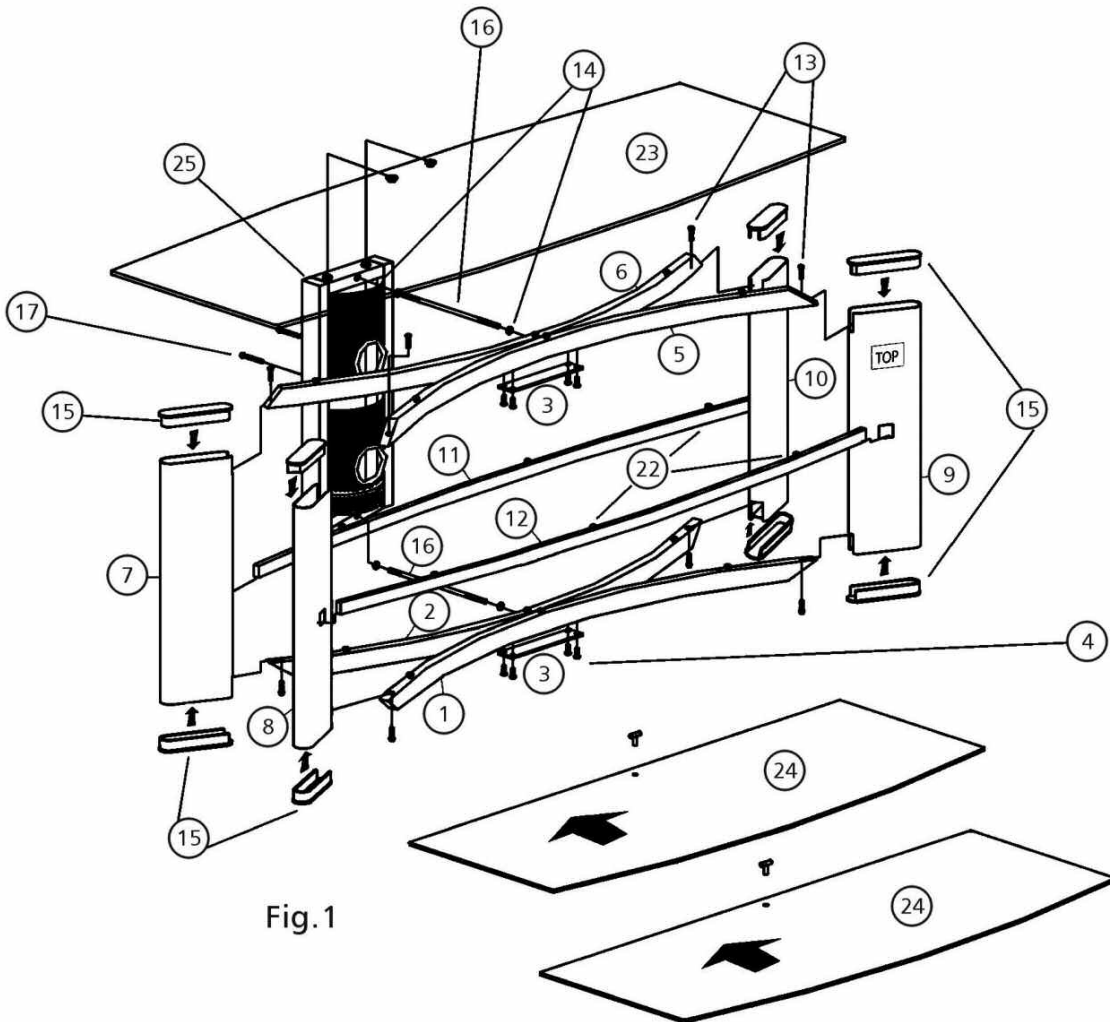

Fig. 1
A. PLACE the LOWER frame bars (1) and (2) UPSIDE DOWN on the floor so that the two holes in the bottom of the bars are facing upwards and the holes in the center of the sides of the bars are ALIGNED. NOTE THE DIRECTION OF THE SLANT AT THE BAR ENDS AS SHOWN IN FIG. 1 AND FIG. 2.
B. ALIGN one of the two flat plates (3) with the upward facing holes in the two bottom frame bars, so that the recessed screw holes in the plate is also facing upwards, and SECURE the plate and the lower frame bars together with the 1/4" x 15 mm funnel neck screws (4).
C. REPEAT this assembly procedure for the UPPER frame bars (5) and (6). NOTE THE DIRECTION OF THE SLANT AT THE BAR ENDS AS SHOWN IN FIG. 1 AND FIG. 2.
D. TURN the BOTTOM frame bars (1) and (2) over so that the flat plate (3) is sitting on the floor.
NOTE: All four legs are the same. TO AVOID SCRATCHING the legs or the BOTTOM frame bars, CAREFULLY PLACE the four legs (7), (8), (9), and (10) upright with the slots in the bottom of each of the legs over the BOTTOM frame bar as shown in Fig. 1. The cut-out hole located on the middle side of each leg MUST be facing OUTWARD away from the center of the table when fully assembled. DO NOT SECURE THE LEGS TO THE BOTTOM FRAME BARS AT THIS POINT. This step is used to hold the furniture in place while securing the TOP frame bars.
E. TURN the attached TOP frame bars (5) and (6) over so that the flat plate (3) is facing downward towards the floor. TO AVOID SCRATCHING the legs or the TOP frame bars, CAREFULLY PLACE the TOP frame bars into the slots on top of the legs. SECURE the TOP frame bars to the legs with the 1/4" x 15 mm straight neck screws (13) and the supplied Allen key tool (21). LOOSELY SECURE THE SCREWS AT THIS POINT.
F. TO AVOID SCRATCHING THE FURNITURE, CAREFULLY LIFT the partially assembled table off of the BOTTOM frame bars (1) and (2), and CAREFULLY TURN the unit over so that it is resting on the TOP of the legs with the BOTTOM of the legs facing upwards. The TOP of the legs will already be attached to the TOP frame bars at this point.
G. TO AVOID SCRATCHING THE FURNITURE, CAREFULLY INSERT the CENTER shelf support bars (11) into the cutouts on the FRONT and REAR legs, with the curvature of bars facing OUTWARD as shown in Fig. 1.
N. PLACE a washer (14) over the exposed ends of the LONG tie bars (16). CAREFULLY POSITION the CMS® frame (25) upright facing the exposed ends of the LONG tie bars (16).
O. ALIGN the front of the CMS® frame (25) with the exposed ends of the LONG tie bars (16) and SLIDE the CMS® frame onto the bars so that it is resting against the REAR center shelf support bar (11). From the REAR of the CMS® frame, INSERT the 1/4" x 60 mm screws (17) through the pre-drilled holes in the middle of the rear CMS® frame and SECURE to the REAR center shelf support bar using the supplied Allen key (21). DO NOT FULLY TIGHTEN AT THIS POINT.
P. SECURE the LONG tie bars (16) to the rear of the of the CMS® frame using 1/4" x 16 mm OPEN ended screws (18) and the Allen key (21).
S. PLACE glass support pads (22) onto the left, center and right tops of the BOTTOM frame bars, TOP frame bars and CENTER shelf support bars as shown in Fig. 1.
T. CAREFULLY POSITION and PLACE the TOP (largest) shelf (23) onto the TOP frame bars and top of the CMS® frame (25). Make sure that the two silver discs in the TOP shelf are facing the rear of the table and ALIGNED with and sit in the holes in the top of the CMS® frame. Working from the underside of the CMS® frame, SECURE the top shelf to the CMS® frame using the 1/4" x 25 mm screws (19) and the supplied Allen key (21).
U. CAREFULLY PLACE the two smaller shelves (24) onto the BOTTOM and CENTER shelf support frames with the holes in the shelves facing towards the REAR of the table, and INSERT the shelves through the cutout shelf slots in the CMS® frame. LOCK the shelves in place by INSERTING the T-shaped shelf locking pins (20) through the holes in the rear of the shelves.